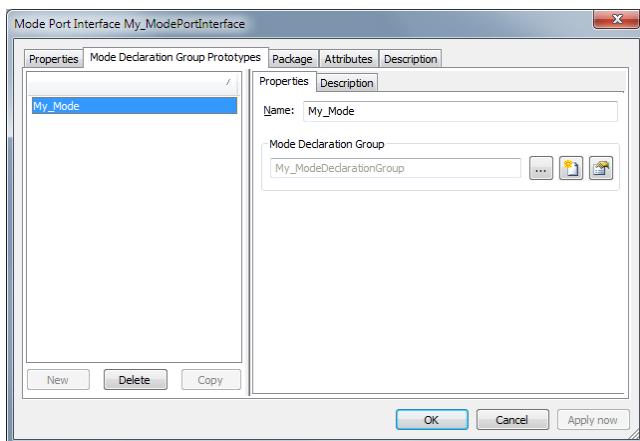

Figure 4-41 My ModePortInterface
- A mode port interface called “My_ModePortInterface” is created. It transmits “My_Mode” of mode declaration group “My_ModeDeclarationGroup” (see Figure 4-41).